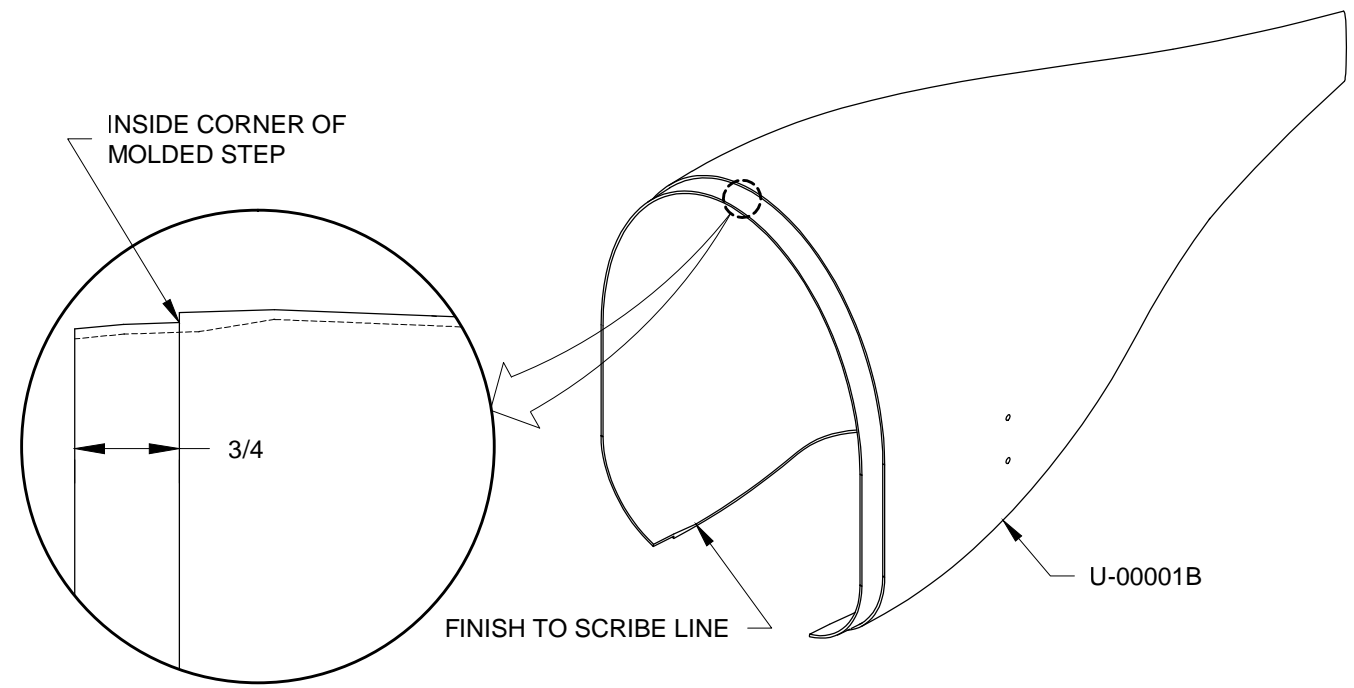

FIGURE 2: PREP REAR FAIRING
Step 3: Square up the inside corner of molded step in the U-00001B Wheel Fairing Aft as required to allow for a good fit of the fairing halves as shown in Figure 2. A coarse file works well. Trim the wheel fairing aft flange to 3/4 inch from the molded step as shown in Figure 2.
Step 4: Trim the tire opening of the U-00001B Wheel Fairing Aft to 1/16 inch from the scribe line with hand shears. See Figure 2.